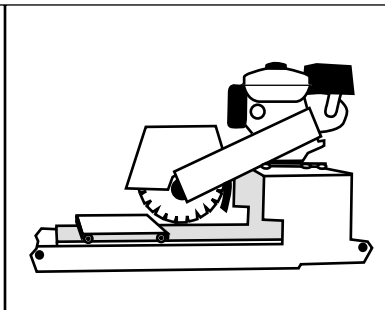

Figure 25. Table Saw
- *Table Saws (Diamond Blade).* (Figure 25) They provide precision cutting, but lack mobility so can be time-consuming. Most saws can run either wet or dry. When water is used, it provides lubrication and reduces wear on the blade. If water is supplied to the saw, anticipating a nearby faucet in planning the job will save delays and money. If possible, use clean water and do not recirculate it as it will likely stain the pavers.